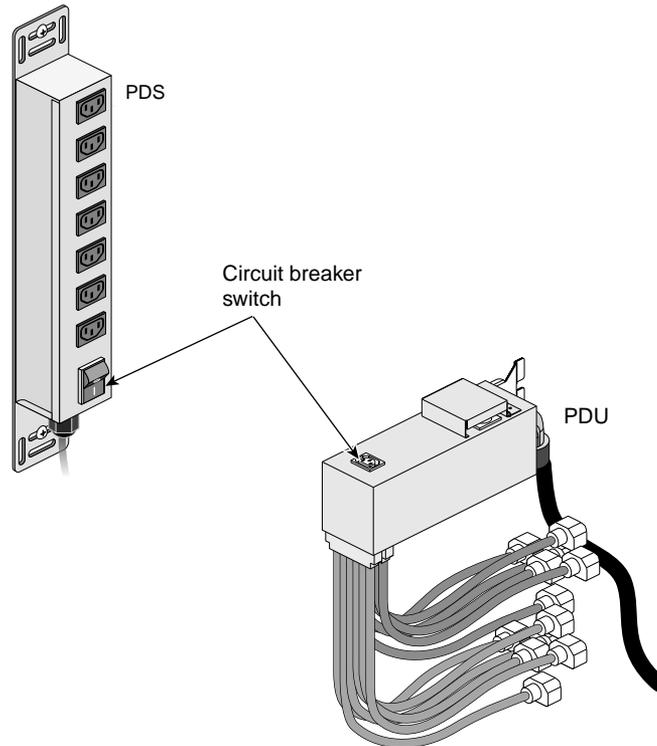

Figure 1-4 PDS and PDU Circuit Breaker Switches
5. Make sure that the circuit breaker switches of the power distribution unit (PDU) and power distribution strip (PDS) shown in Figure 1-4 are in the on position.